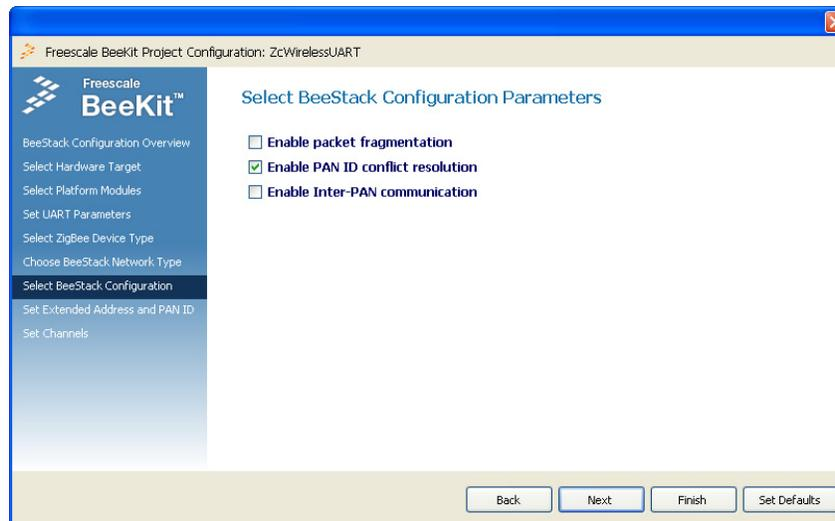

Figure 5-9. BeeStack Configuration Page
8. Click the Next button and the Select BeeStack Configuration window appears as shown in Figure 5-9. Leave the default settings (PAN ID conflict enabled).
5. Click the Next button and leave the default BeeStack Configuration as for the Coordinator as shown in Figure 5-9.